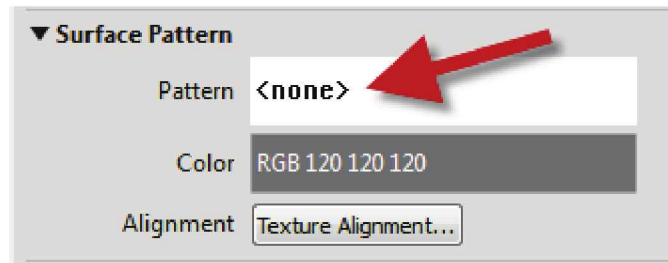

FIGURE 18-4.9 Setting surface pattern
19. Click the **Surface Pattern** preview area (currently set to “none”); see Figure 18-4.9.